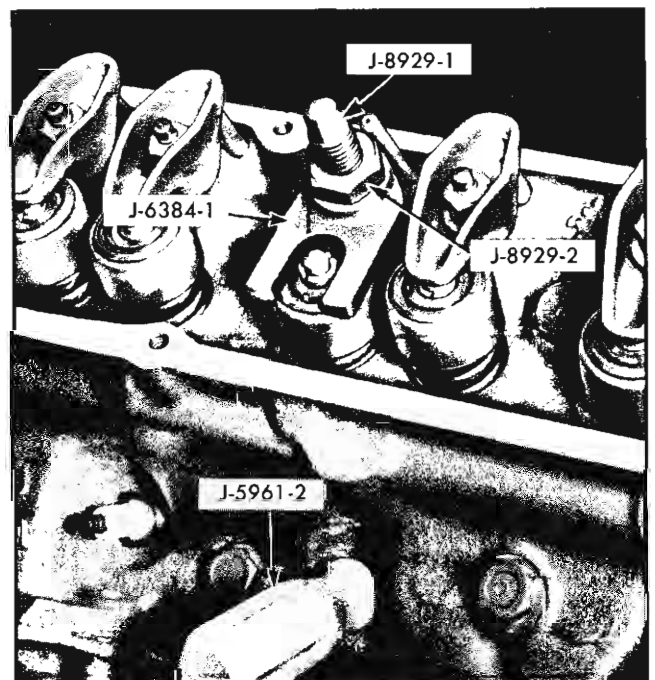

Fig. 6-18 Valve Spring Compressed
3. After removing rocker arm, thread valve spring compressor stud J-8929-1 on rocker arm stud and compress valve spring using compressor J-6384-1 and nut J-8929-2 while holding valve up with Valve Holder J-5961-2 (Fig. 6-18). Remove valve spring retainer cup locks and then remove valve spring compressor, valve spring retainer cup shield and valve stem seal.